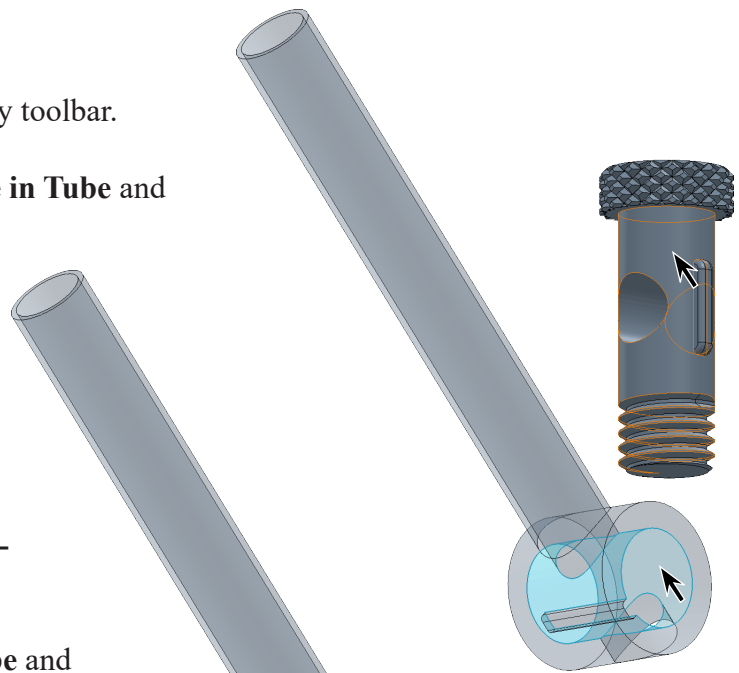

Fig. 15
Step 2. Click **cylindrical face of bolt hole in Tube** and **cylindrical face of Bolt**, Fig. 15.